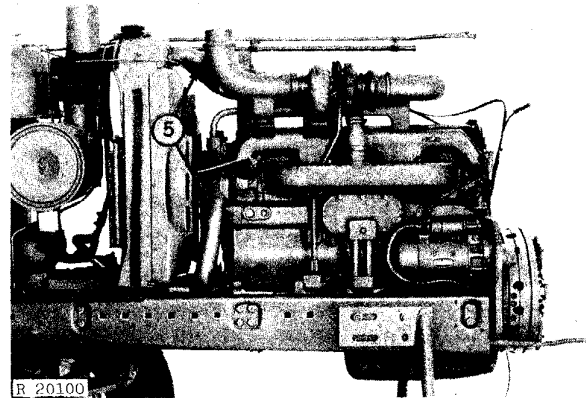

Fig. 12—Left-Hand Side of Engine
5. Disconnect and remove upper and lower radiator hoses (Fig. 12).